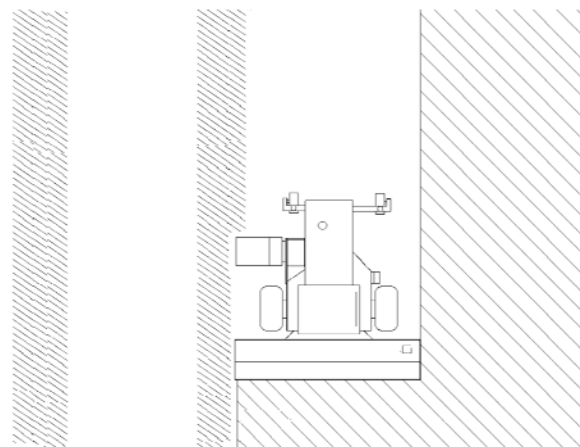

Figure 5. Double Windrowing, Second Pass
- b/ In the second pass, raise the deflector (heavy conditions) or increase the belt speed (light conditions) to deliver the second windrow on top of the first windrow (See Figure 5).